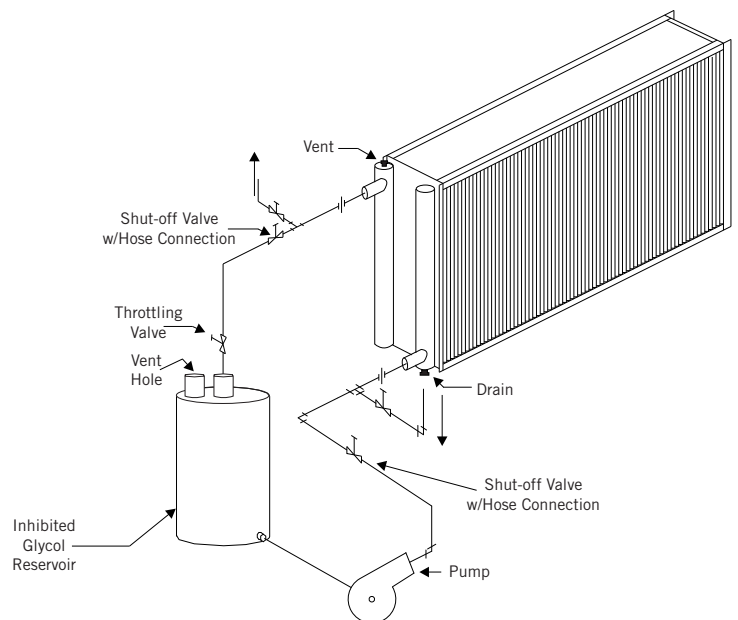

Figure 5. Flushing System Diagram
- Connect the flushing system to the coil. A typical system is shown in Figure 5 - Flushing System Diagram.